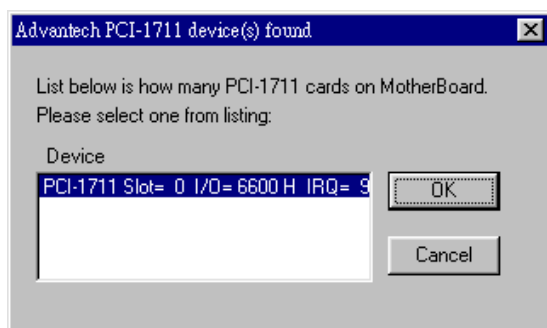
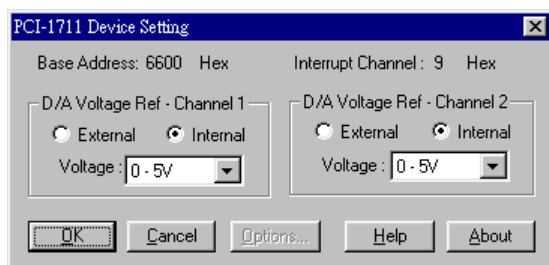

Fig. 2-8 The “Device(s) Found” dialog box
Fig. 2-9 The Device Setting dialog box
Step 4: Scroll down the *List of Devices* box to find the device that you wish to install, then click the **Install** button to evoke the *Device(s) Found* dialog box such as one shown in Fig. 2-8. The *Device(s) Found* dialog box lists all the installed devices on your system. Select the device you want to configure from the list box and press the **OK** button. After you have clicked **OK**, you will see a *Device Setting* dialog box such as the one in Fig. 2-9.
Step 5: On the *Device Setting* dialog box (Fig. 2-9), you can configure the voltage source either as *External* or *Internal*, and specify the voltage output range for the 2 D/A channels.